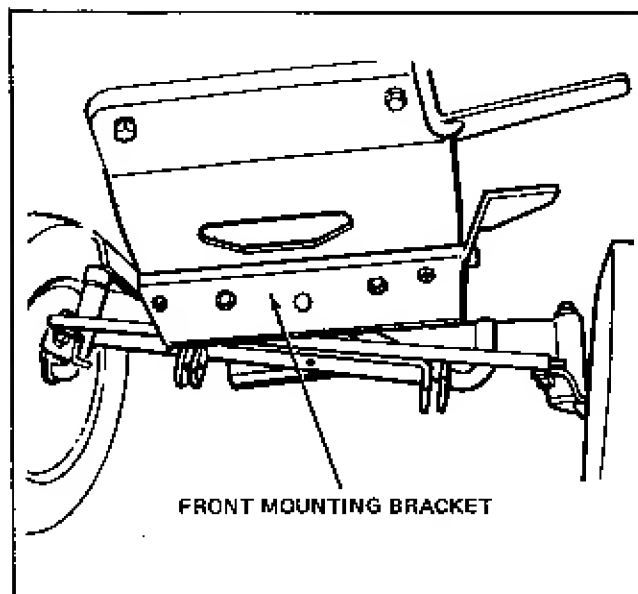

Figure 3.
3. Remove the No. 157482 frame angle and install the front mounting bracket under frame as shown in Figure 3 using the same hardware.